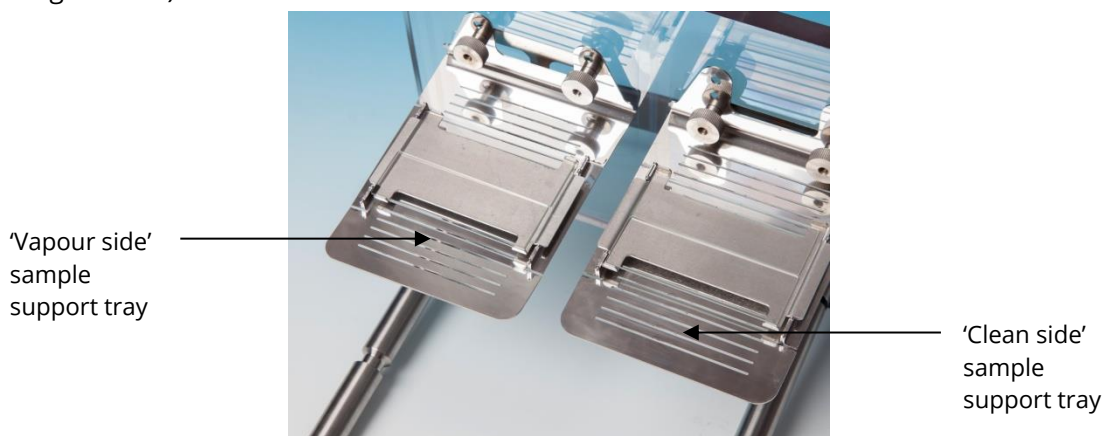

Figure 2-11. Sample support trays
Each chamber of the GloQube Plus is fitted with a tray for supporting samples (See Figure 2-11).
3. Transfer the slide(s) to the selected tray ('clean' or 'vapour' side) as shown in Figure 2-11.